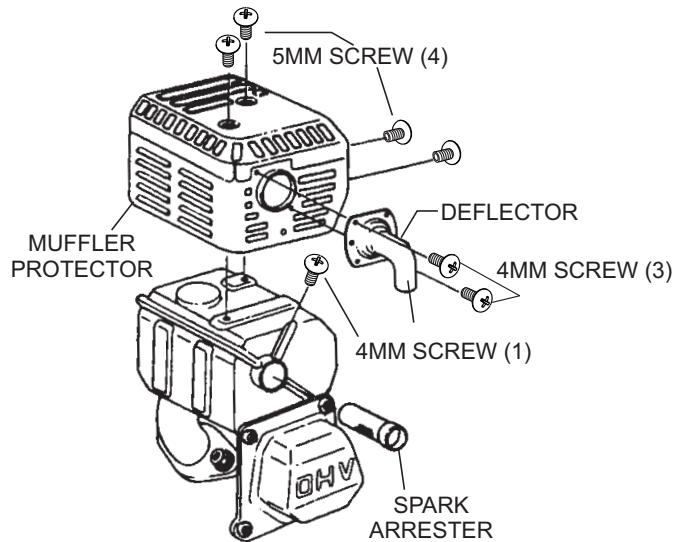

Figure 34. Spark Arrester Removal
1. Remove the 4 mm screw (3) from the exhaust deflector, then remove the deflector. See (Figure 34).
2. Remove the 5 mm screw (4) from the muffler protector, then remove the muffler protector.